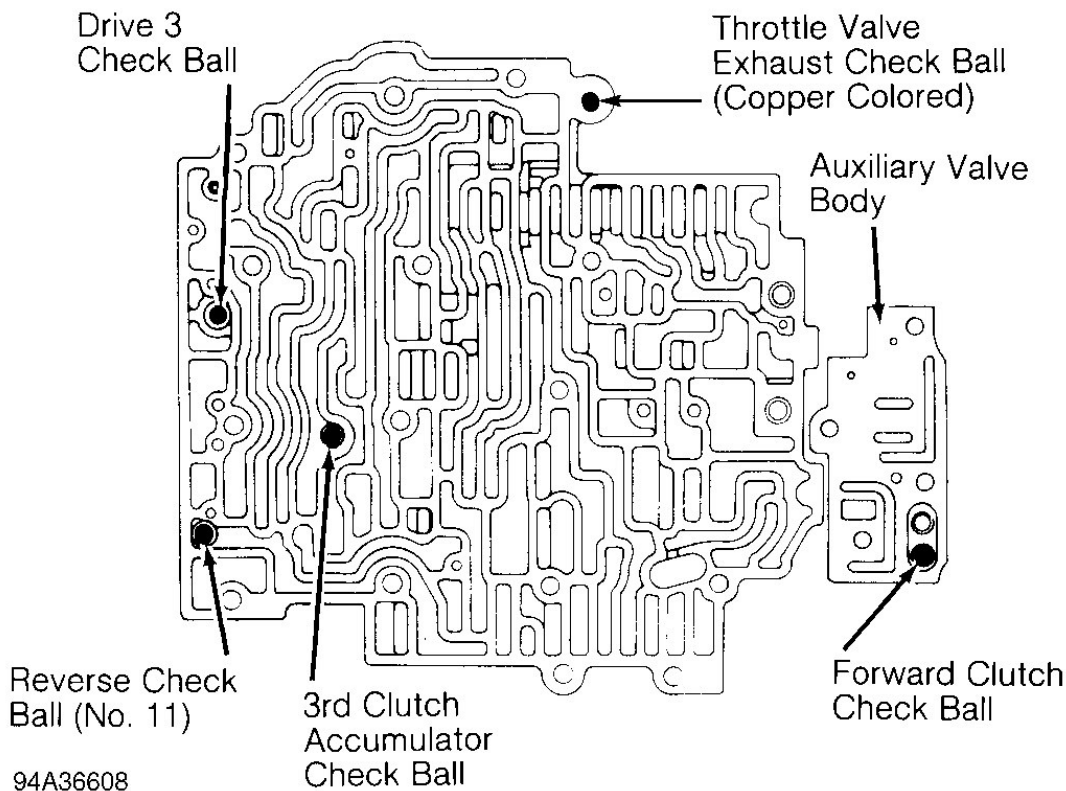
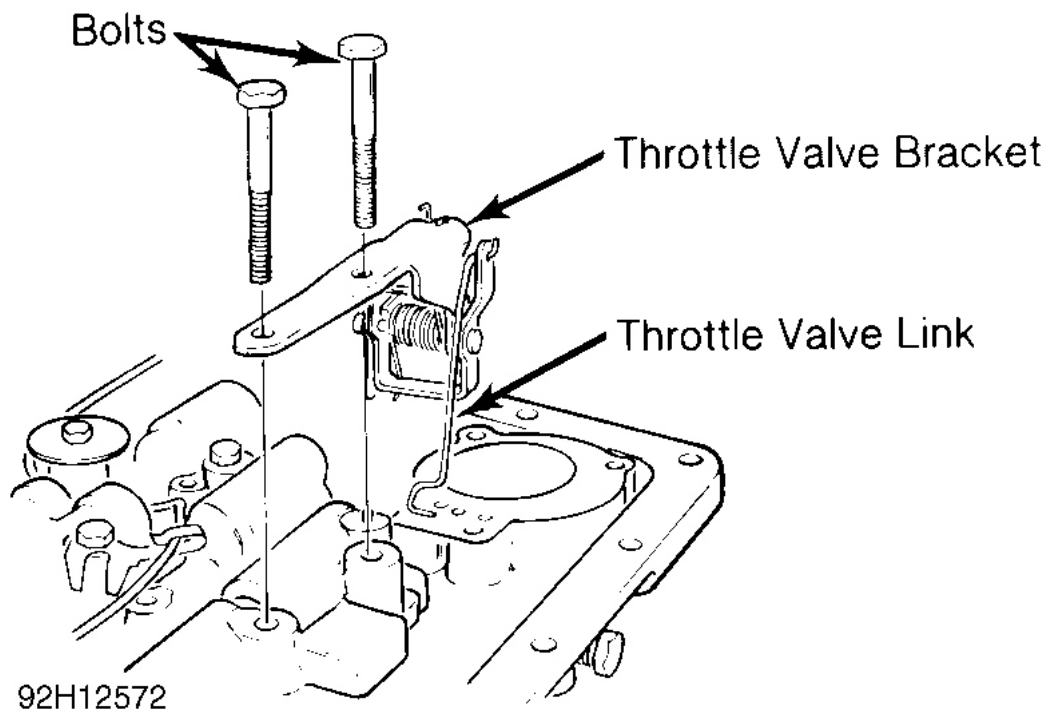

Fig. 5: Locating Valve Body Check Balls (4L60)
Fig. 7: Installing Throttle Valve Link
Remove transmission oil pan. Remove oil filter and "O" ring. Ensure "O" ring is removed from transmission case. Remove clamp and pressure tube. Remove auxiliary valve body retaining bolts. Remove auxiliary valve body and check ball. See **Fig. 5**. Note location of check ball.
3. Note direction of manual valve link. Remove manual valve link from manual valve at valve body. See **Fig. 6**. Note direction of throttle valve link. See **Fig. 7**. Remove throttle valve bracket and throttle valve link. Remove valve body. Note location of check balls. **DO NOT** lose balls. See **Fig. 5**.
1. Coat check balls with petroleum jelly. Install check balls in proper locations on separator plate. See **Fig. 5**. Install manual valve link. Ensure manual valve link is properly seated in manual valve. See **Fig. 6**. Improper positioning may prevent vehicle operation in "D" range.
2. Install throttle link. Ensure link is properly positioned with lower hook facing outside of transmission case. See **Fig. 7**. Install valve body and retaining bolts. Tighten bolts to specification. To complete installation, reverse removal procedure.